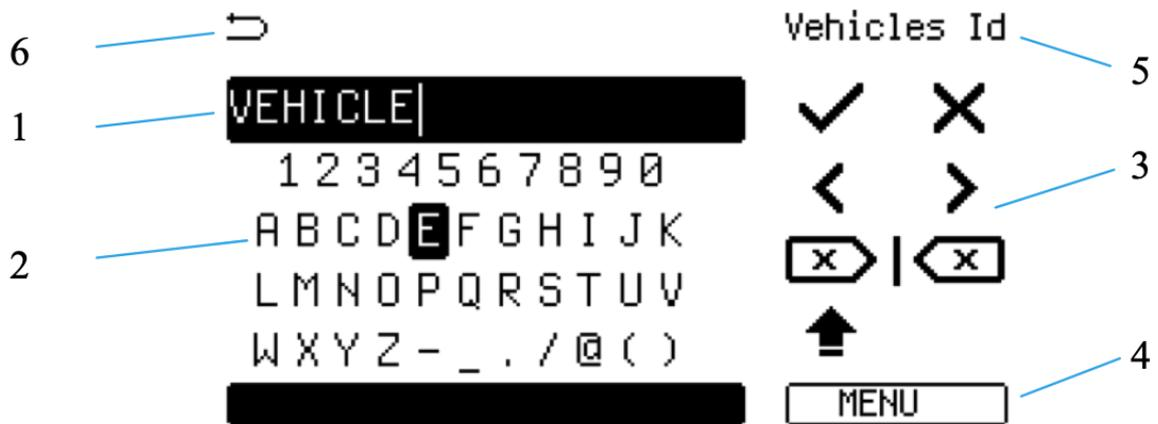
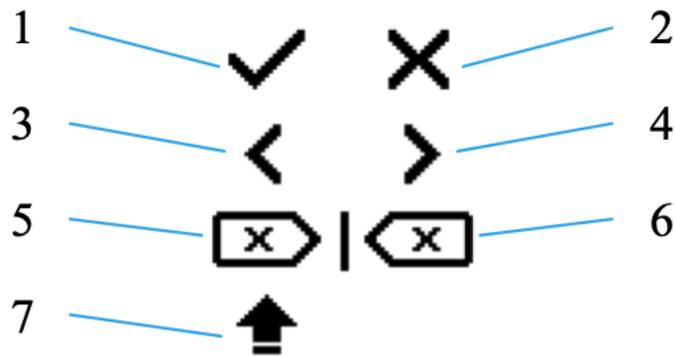

Figure 12: On-screen keyboard in the vehicle name entry mode
Figure 13: On-screen keyboard controls
The on-screen keyboard is used to enter names, passwords, and identification numbers of sensors. Fig.12 shows the on-screen keyboard in the "Vehicle ID" entry mode.
To enter a text, switch to the menu of selection of numbers and letters (pos. 2 on Fig.12) by pressing the **MENU** key. The selected menu has shaded area 4. Use Δ / ∇ keys to select a character and confirm the selection with \circ key. The selected character will be displayed in area 1. The desired text can be typed by selecting the letters and numbers of area 2. The text length must be maximum of 9 characters. Confirm each new character selection with \circ key. When finished entering, press **MENU** key to switch to area 3 with editing tools. To save the entered text, use Δ / ∇ keys to select symbol 1 according to Fig.13.
Description of the controls as shown in Fig.13: